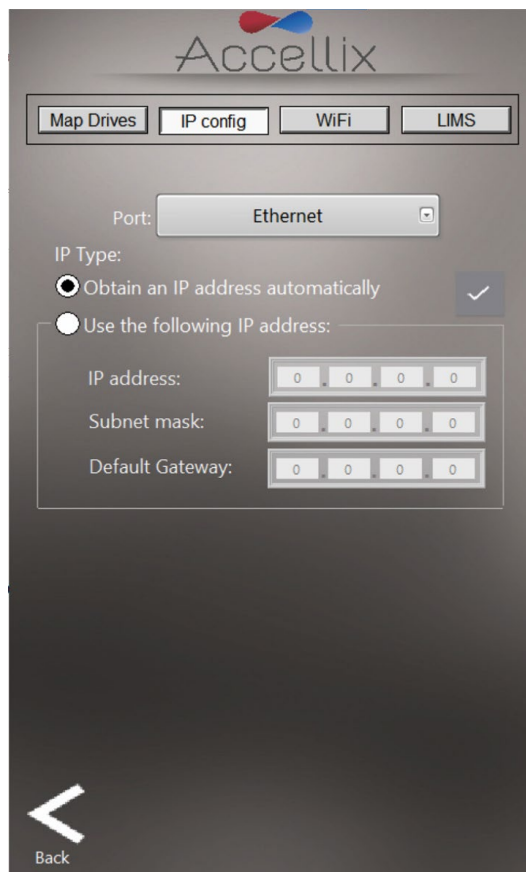

Figure 27: Network screen: IP Config tab
2. The IP config tab (Figure 27) allows the TCP/IP address for either of the Accellix instruments' two Ethernet ports to be configured dynamically or with a static IP address.